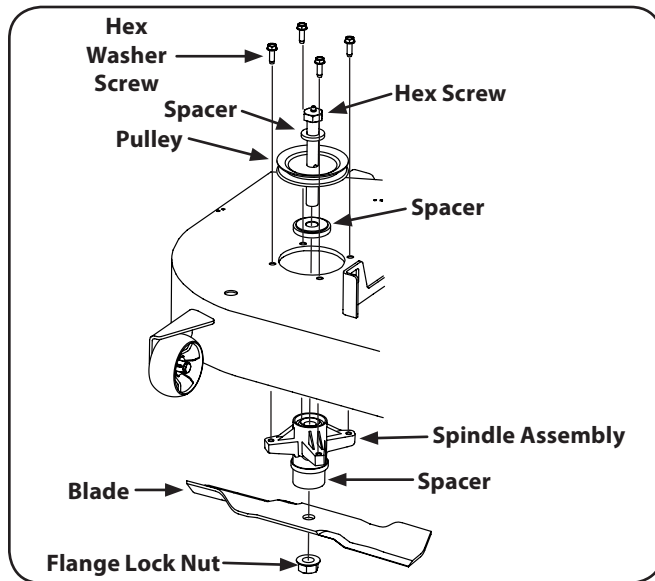

Figure 7-12
3. Use a  $\frac{3}{4}$ " wrench to hold the hex nut on top of the spindle assembly when loosening the hex nut securing the blade. A block of wood may be placed between the deck housing and the cutting edge of the blade to help in breaking loose the hex nut securing the blade. See Fig. 7-12.
4. Using a wrench or socket ratchet remove four hex washer screws. Remove the spindle assembly. See Fig. 7-12.